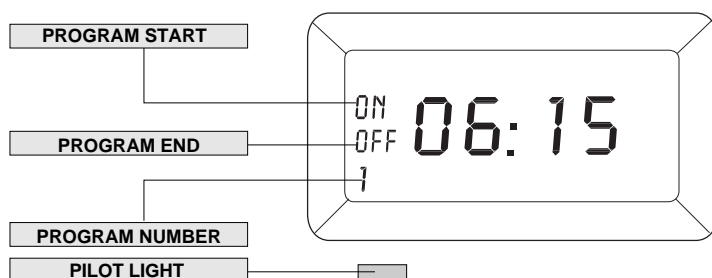

fig. 6
2. Press the **Ⓢ** pushbutton to access the 1st operation program. The message ON will be shown on the display together with the program number (1). See fig. 6.
4. Press the **Ⓢ** pushbutton again to set the end of program time. The message OFF and 1 will be shown on the display (fig. 6). Now set the time using the **h+** and **min+** pushbuttons.